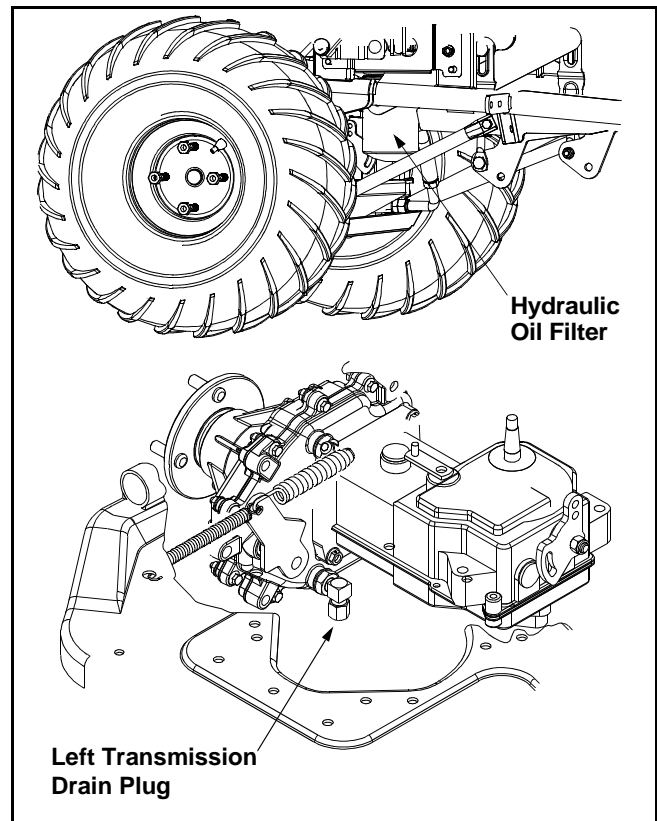

Figure 16
- Remove the hydraulic filter to allow hydraulic oil to drain. See Figure 16.